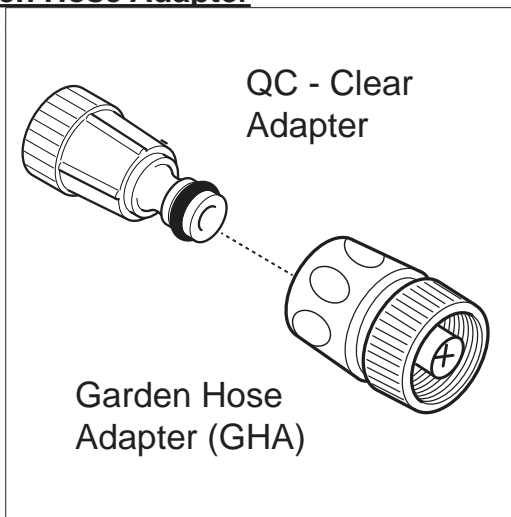

Fig. 15
- Install the garden hose adapter (GHA) and quick connect filter. It is made up of two separate pieces. (1) A clear plastic adapter with a screen filter (about 3 inches long) and (2) a blue/black collar attachment (**Fig. 15**).